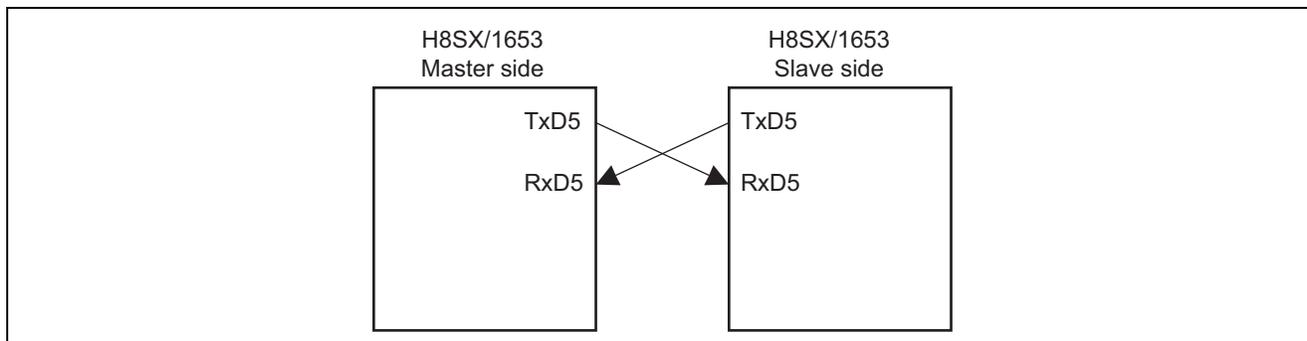

Figure 1 Setup for Asynchronous Communications with Timing from the Average Transfer Rate Generator
- Connect the H8SX/1653 as shown in figure 1.